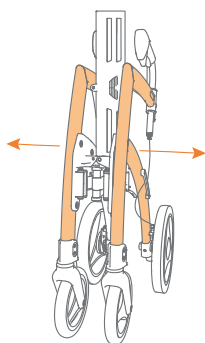

Figure 14: Unfold by pulling the frame outwards.
- a. Pull the frame sides of the Rollz Motion Electric apart until almost completely unfolded (**Figure 14**).